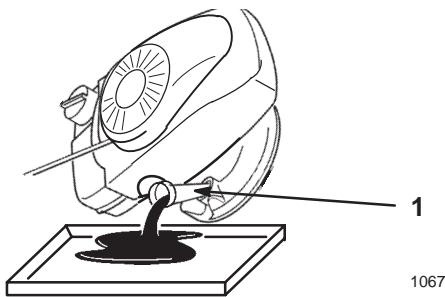

Figure 19
2. Drain the oil from the oil fill tube at the dipstick into an appropriate container (Fig. 19).